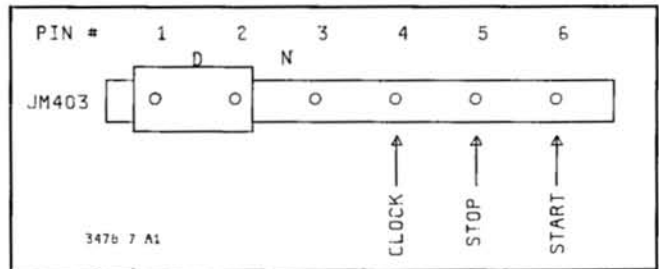

Figure 7-A-1. JM403 SA Connection
- Move jumpers JM502, JM503, and JM403 to the "D" position (JM403 pin 1 and 2), as shown in Figure 7-A-1.
- Obtain a Signature Analyzer. Set and connect as follows (shown in Figure 7-A-1):